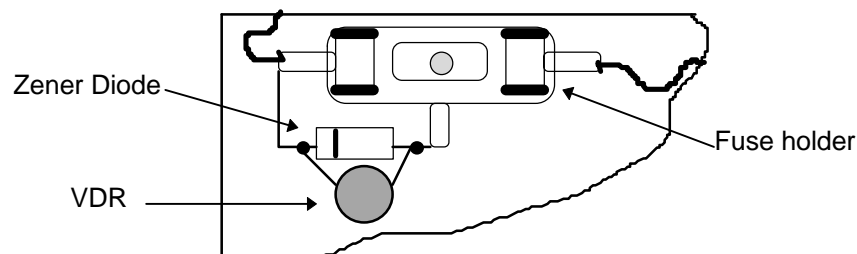

Figure 1: Installation of VDR
- Attach and solder the VDR across the diode as shown in Figure 1.